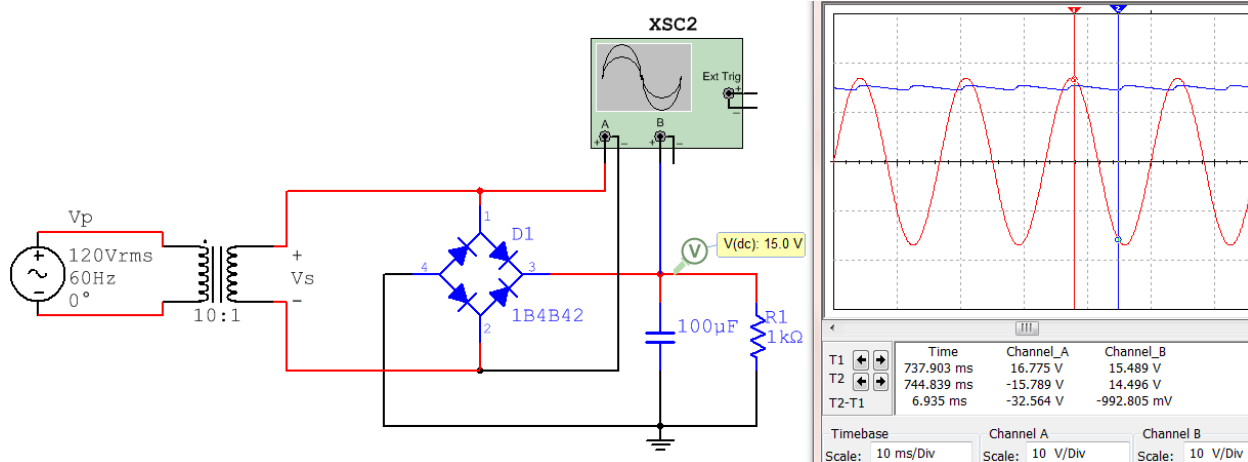

**Figure 6.16: Half-Wave Peak Rectifier.**
Rectification is the first step in converting an AC signal to a DC signal. The next step would be to add a capacitor in parallel with the load resistor where  $V_{o,pk}$  is measured so that the voltage will not be allowed to drop very fast due to the time constant of the capacitor. Once the “smoothing capacitor” is added the rectifier is called a “Peak Rectifier”. An example of a half-wave peak rectifier is shown in Figure 6.16. The calculations and Multisim measurements of a **half-wave peak rectifier** are shown below (See equation summary in Table 6.1).
- $V_s =$  peak input voltage =  $120 \cdot \sqrt{2} = 169.7 \text{ V}$  (169.634 V in Multisim - Figure 6.16).
- $V_{o,pk} =$  peak output voltage =  $V_s - 0.7 \text{ V} = 169 \text{ V}$  (169.026 V in Multisim - Figure 6.16).
- $V_r =$  ripple voltage ( $V_{o,pk} - \text{minimum Vout}$ ) =  $\frac{V_{o,pk}}{fRC} = \frac{169}{60 \cdot 50k \cdot 1\mu} = 56.3 \text{ V}$  (~ 41.3V in Figure 6.16).
- $V_{o,DC} =$  the approximate DC voltage (centerline of the ripple). In Figure 6.16  $V_{o,DC}$  is equal  $169 - 0.5 \cdot V_r = 169 - 0.5 \cdot 41.3 = 148.4 \text{ V}$ . The DC voltage probe in Figure 6.16 measures the DC voltage as 149 V.
The equations for half-wave and full-wave peak rectifiers that were shown in Figures 6.16 and 6.17 are summarized in Table 6.1. **Note:** The **Full Wave Center Tapped** equations are shown, but this type of rectifier circuit is not covered in detail in this eBook.